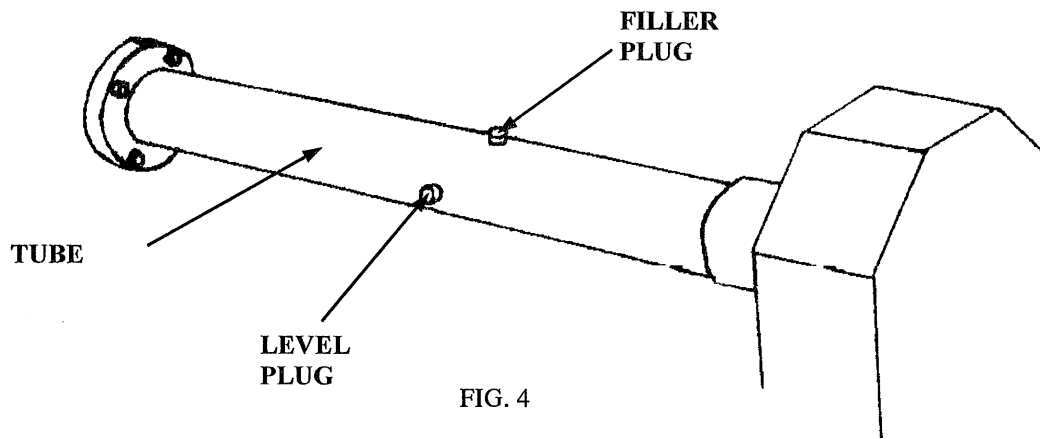

FIG. 4
- Check correct oil level of the tube. To proceed, remove the oil level plug (see fig. 4). If needed to add oil, remove the filler plug and fill in until oil starts running out of the oil level hole.